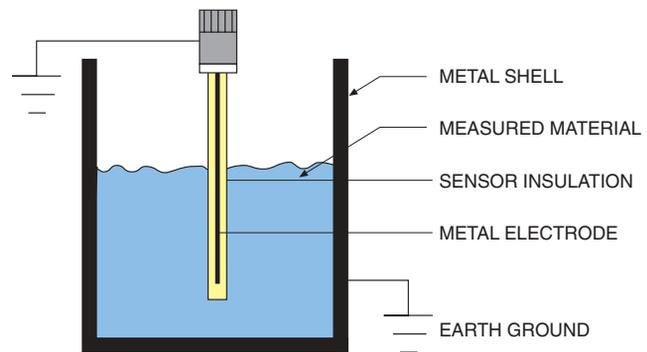

Figure 1- Capacitive Measurement In Non-Conductive Media
- **Non-Conductive Materials**—As previously stated, capacitance changes as material comes between the plates of the capacitor. For example, suppose the sensor and the metal wall are measuring the increasing level of a non-conductive hydrocarbon. Figure 1 depicts a typical system.